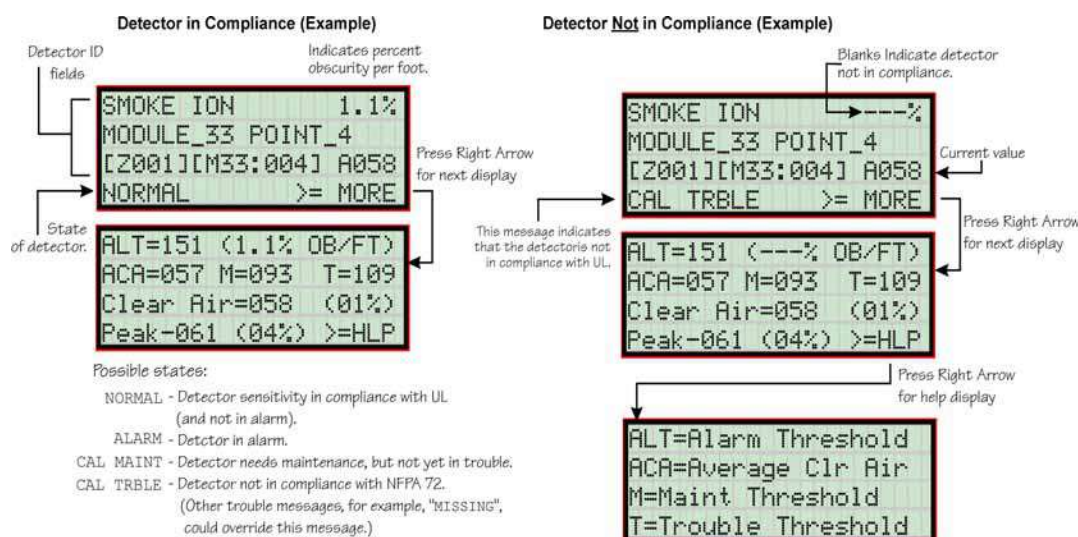

Figure 8-3 Checking Detector Sensitivity Compliance
5. A screen similar to those shown in Figure 8-3 will display.